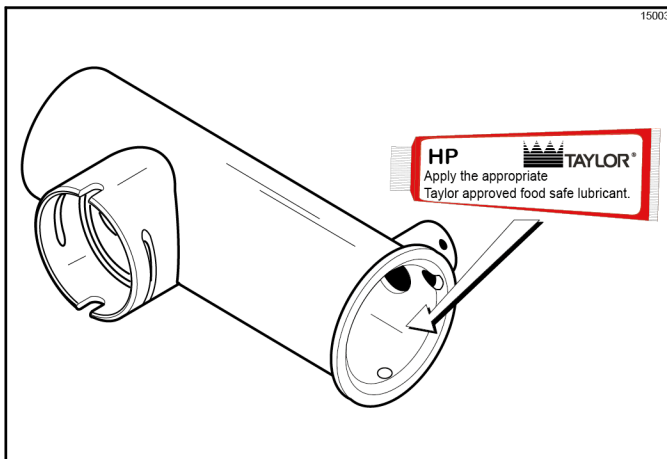

Figure 6-21
- Apply a small amount of lubricant to the lower inside diameter of the pump cylinder to a depth equivalent to the length of your index finger. Once applied, the amount of lubricant should be equal to a paper-thin film. (See Figure 6-21.)